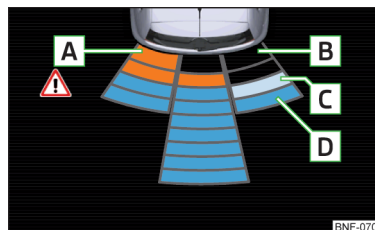

Fig. 98
Screen display » Fig. 98
-  An obstacle appearing in the collision zone is shown as an orange-coloured segment » Fig. 98.  **Do not continue to drive!**
- Through touching the screen of the multifunction device » Fig. 98 with the fingers.